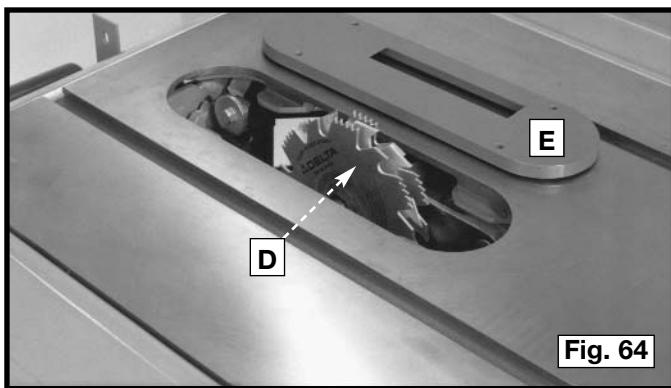

Fig. 64
2. Attach the dado head set (D) Fig. 64, to the saw arbor.
CAUTION The accessory dado head set table insert (E) FIG. 64, must be used in place of the standard table insert.